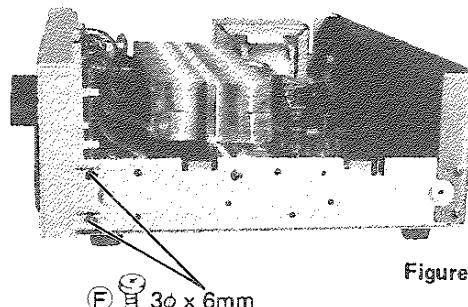

Figure 9
4. Remove the four screws (F) and (G) ($3\phi \times 6mm$) from right side and left side, as shown in Figures 9 and 10.